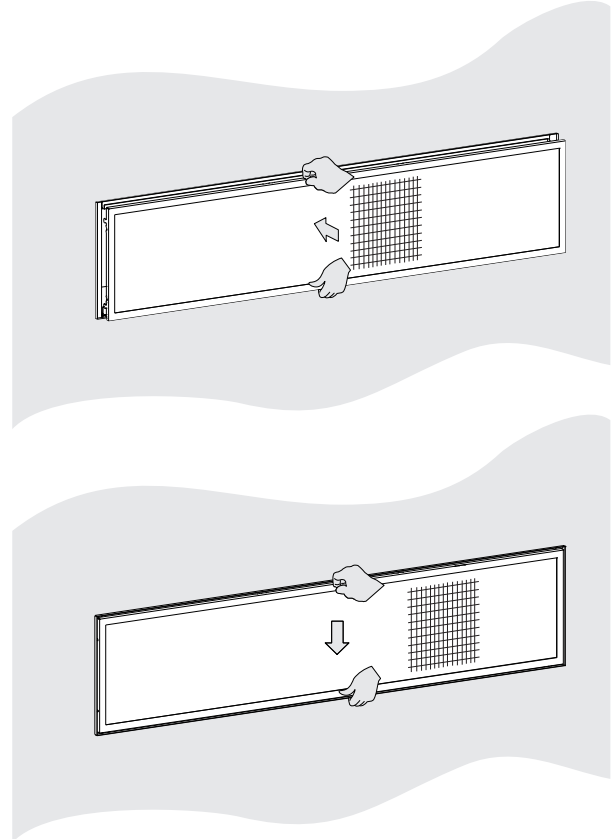

Figure 4
3. Reinstall the Barrier Screen onto the fireplace by lining up the tabs with the slots in the firebox. Push the barrier screen toward the unit and lower it slightly to lock in place. See **Figure 4**.